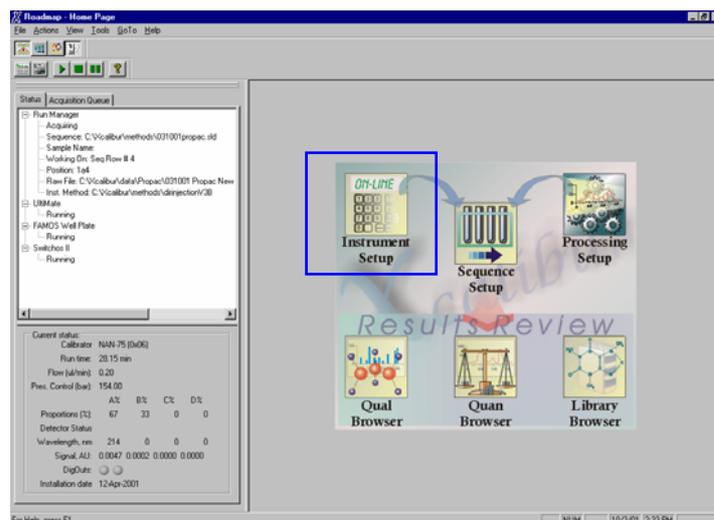

FIGURE 2-25 The Xcalibur Home Page
- a) Activate the Xcalibur software by double clicking the *Xcalibur* icon. The Xcalibur **Home Page** will be presented (FIGURE 2-25).